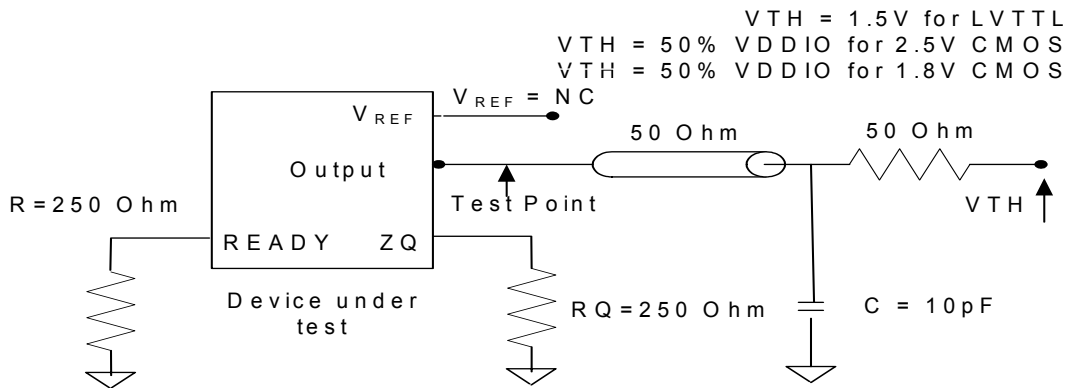

Figure 5. Output Test Load for LVTTL/CMOS
27. Parameters specified with the load capacitance in Figure 5 and Figure 6.